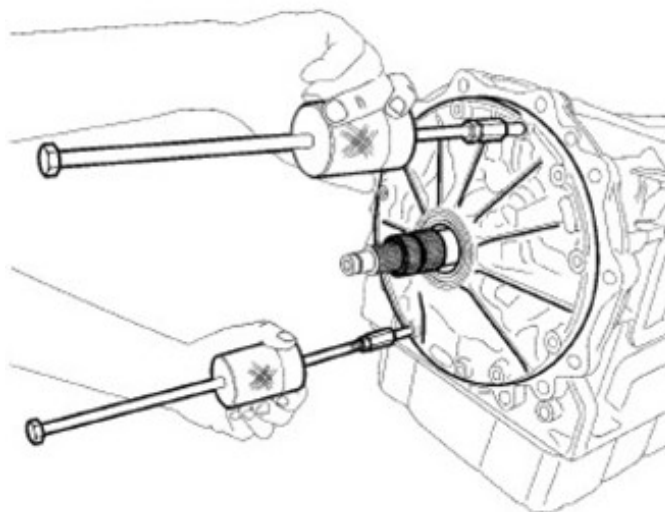

Fig. 5
8. Remove the bolts securing the oil pump to the transmission case and use Slide Hammers C-3752 with Adapters 9981 to remove the oil pump assemble from the transmission spline Fig. 5.